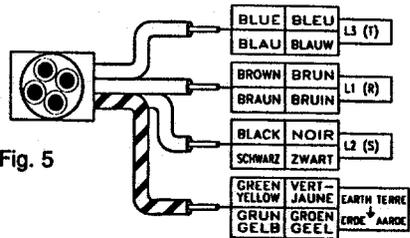

Fig. 5
- The remaining wires coloured black, brown, and blue should be connected to the terminal marked L1, L2, and L3 or "R, S, and T". (See figure 5)